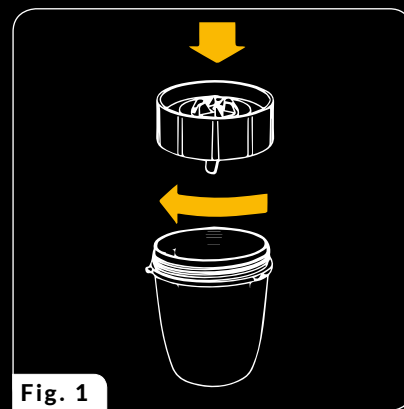

Fig. 1
1. Choose the bottle you need, ④ or ⑤, and place it upright, with the mouth up.
2. Place the blade rotor ring you need, ③A or ③B, on the threaded edge of the bottle ④ or ⑤ with the blades toward the bottom. Next, twist the blade rotor ring to stop with the thread (Fig. 1) properly aligned. Before installing the blade rotor ring, check that its sealing ring is clean and seated properly.
1. Place the Nutri Blender housing ① on a dry, stable and flat surface.
2. Before operating the Nutri Blender, check that the sealing rings inside the blade rotor ring ③A and ③B the drinking mouthpiece cap and the twist-caps ⑦ are clean and properly seated.
4. Place the products into a bottle of choice, ④ or ⑤, and close it tight with a blade rotor ring, ③A or ③B, by properly aligning the thread (Fig. 1). The 2-blade rotor ring ③A is for grinding hard products, like coffee beans, pepper beans and other seeds, stones or cereals. The